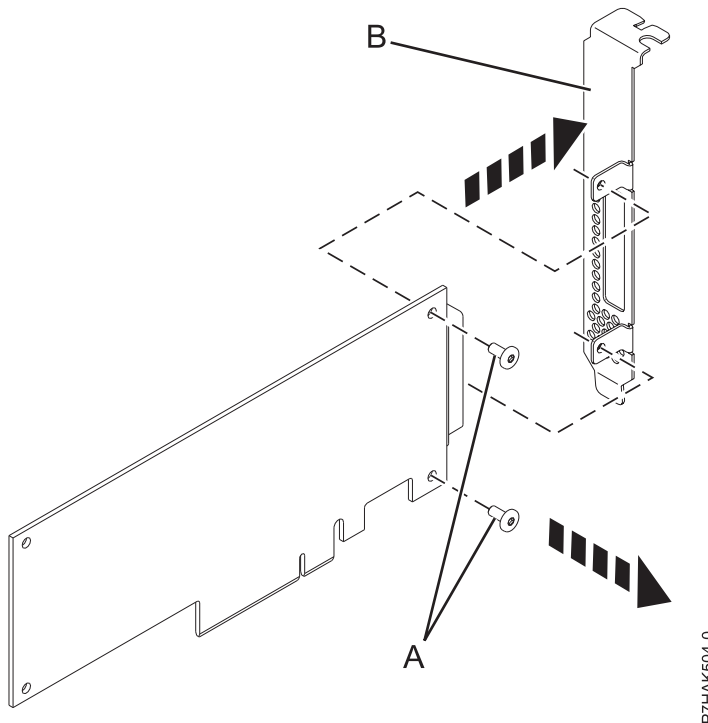

Figure 78. Removing the high-profile tailstock from a new PCIe adapter
8. Using a Phillips screwdriver, unscrew the two retaining screws (A) that attach the high-profile tailstock (B) to the new PCIe adapter, as shown in Figure 78.